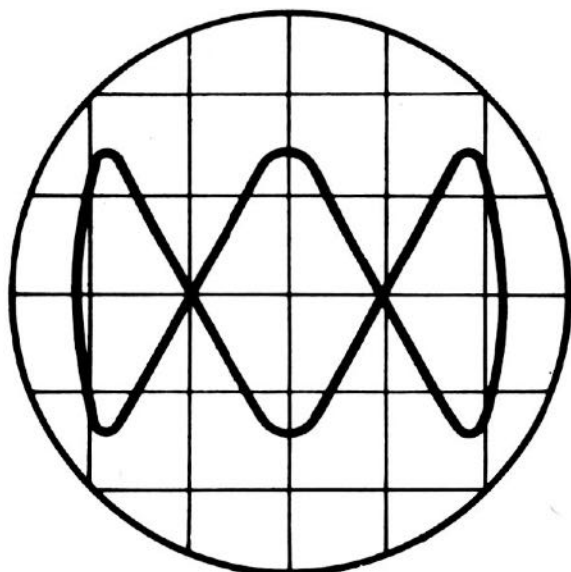

Figure 4-6
Connect the two voltages for comparison to the oscilloscope, one on the horizontal input (AC) and one on the vertical input (AC). Adjust the **HOR. ATTEN.**, S102, and **VERT. ATTEN.**, S101, to the highest attenuation position that will give suitable deflection in both directions. Adjust the **HOR. GAIN** and **VERT. GAIN** controls until the pattern is of the desired size. With the above controls so adjusted, as the two frequencies become exact ratios of one another definite patterns, as illustrated in Figures 4-6 and 4-7, will appear on the screen.